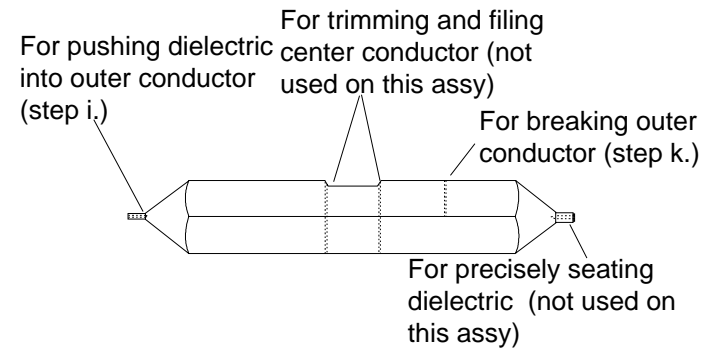

Figure 5. 01-418 Assembly Tool
- k. Break the outer conductor by bending slightly back and forth. *The 01-418 Assembly Tool (Figure 5) may be used for this.* Remove the outer conductor.